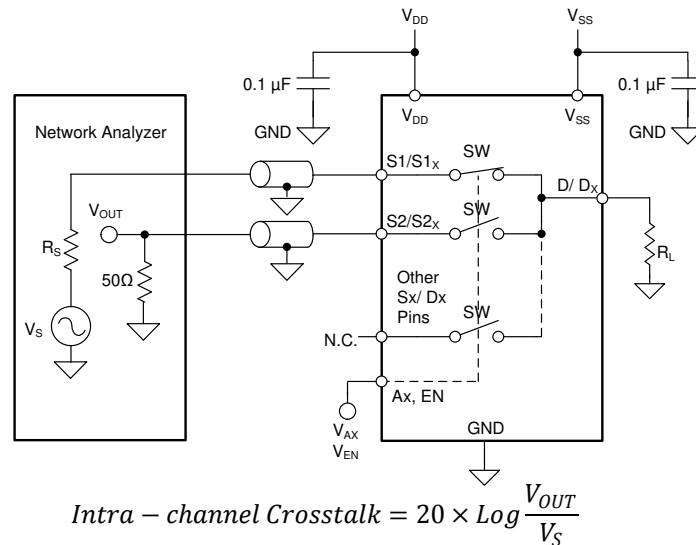

Figure 8-13. Intra-channel Crosstalk Measurement Setup
1. Intra-channel crosstalk ($X_{TALK(INTRA)}$): the voltage at the source pin (Sx) of an off-switch input, when a 1- V_{RMS} signal is applied at the source pin of an on-switch input in the same channel, as shown in Figure 8-13.